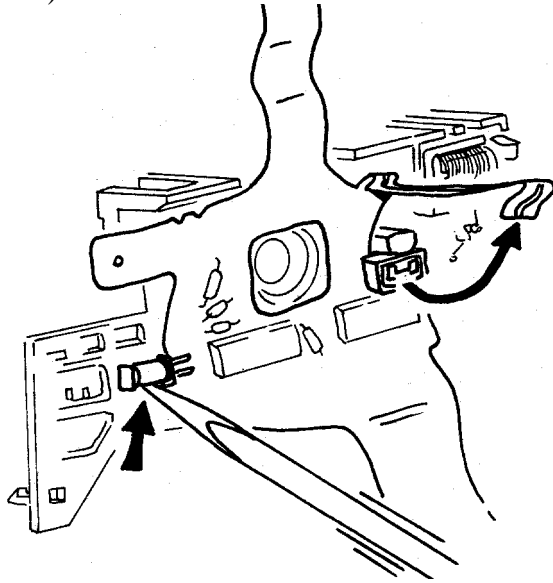

Fig. 25 Removing Flex from the Base Block
29. With Flex Removal Tool, disconnect Flex from the Solenoid connector (Fig. 25), then lift Flex up and out from under the connector block. With point of soldering aid, carefully free the Photocell (attached to the Flex) from its mounting on the Base Block (see Fig. 25).